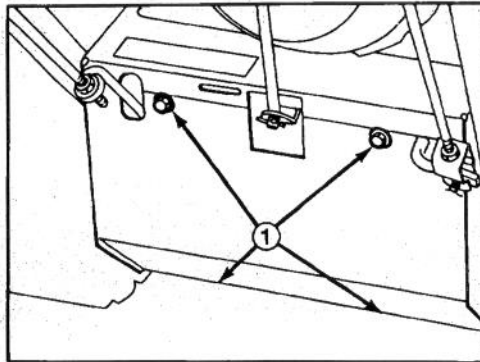

Figure 27
1. Remove four thread forming screws securing bottom cover to frame. Remove bottom cover (Fig. 27).